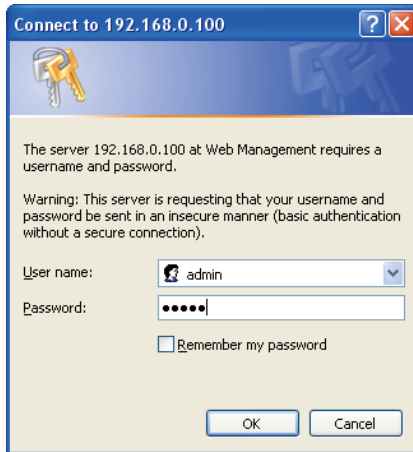

Figure 5-2: Login Screen
2. When the following dialog box appears, please enter the default user name and password "**admin**" (or the password you have changed via console). The login screen in Figure 5-2 appears.